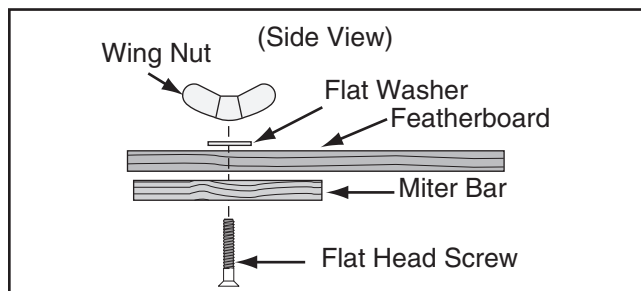

Figure 128. Assembling miter slot featherboard components.
8. Assemble miter bar and featherboard with $\frac{1}{4}$ "-20 x flat head screw, flat washer, and a wing nut (see **Figure 128**). Congratulations! Featherboard is complete.